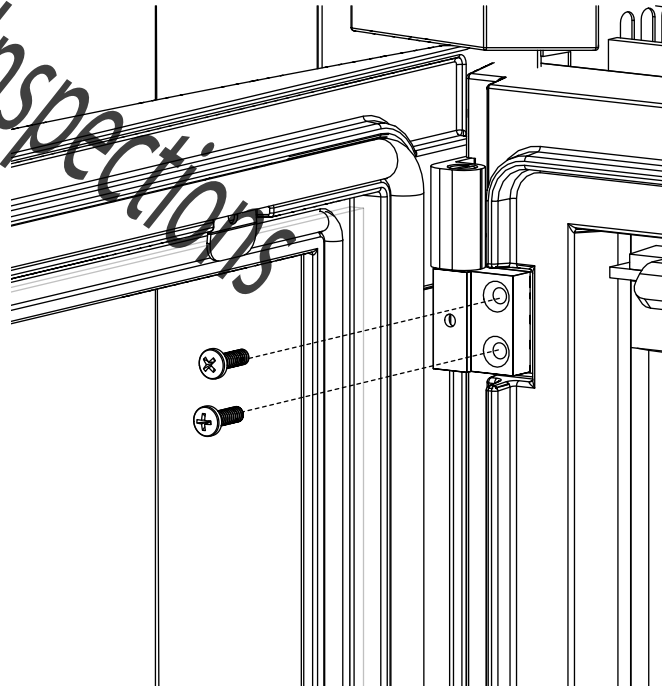

FIG. 1
To remove door, remove the 2 screws from both top and bottom hinges (FIG. 1).
- C. To reinstall the handle support, align the top and bottom screw holes of the latch block to the top and bottom screw holes of the door (FIG 1).
- D. Loosely tighten the top screw and install the two pins (FIG 1).